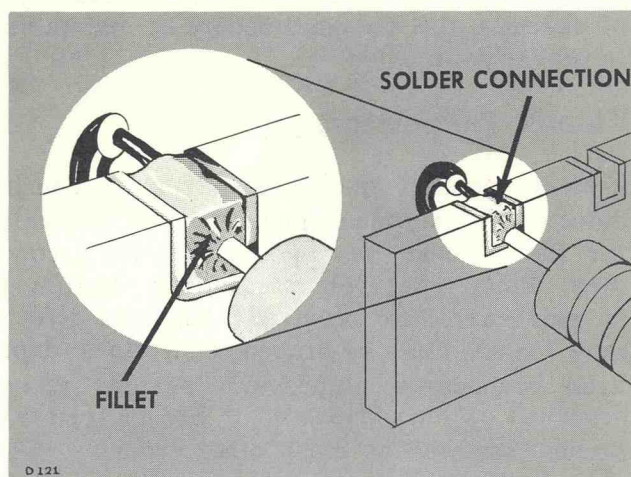
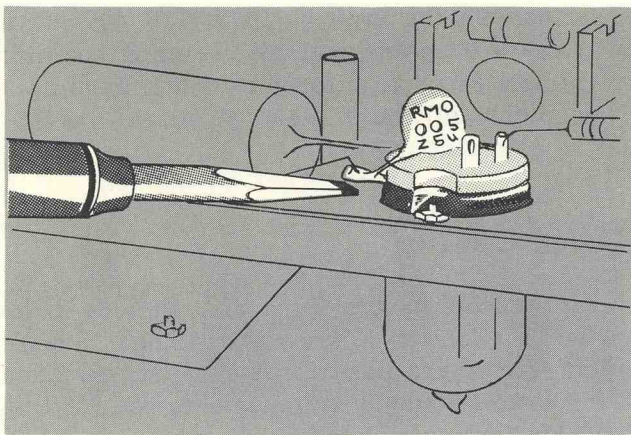

Fig. 4-3. A slight fillet of solder is formed around the wire when heat is applied correctly.
Fig. 4-4. Soldering to a terminal. Note the slight fillet of solder--exaggerated for clarity--formed around the wire.
6. Do not attempt to fill the notch on the strip with solder; instead, apply only enough solder to cover the wires adequately, and to form a slight fillet on the wire as shown in Fig. 4-3.
In soldering to metal terminals (for example, pins on a tube socket) a slightly different technique should be employed. Prepare the iron as outlined above, but tin with ordinary tin-lead solder. Apply the iron to the part to be soldered as shown in Fig. 4-4. Use only enough heat to allow the solder to flow freely along the wire so that a slight fillet will be formed as shown in Fig. 4-3.